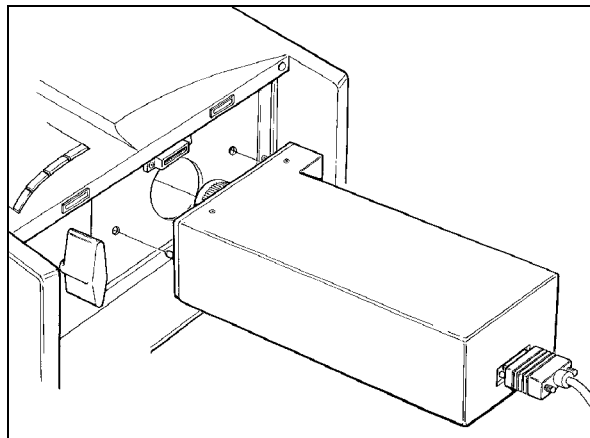

Figure 5-10. Installing the alignment camera on the ProPalette
3. Install the alignment CCD camera on the ProPalette unit (Figure 5-10).